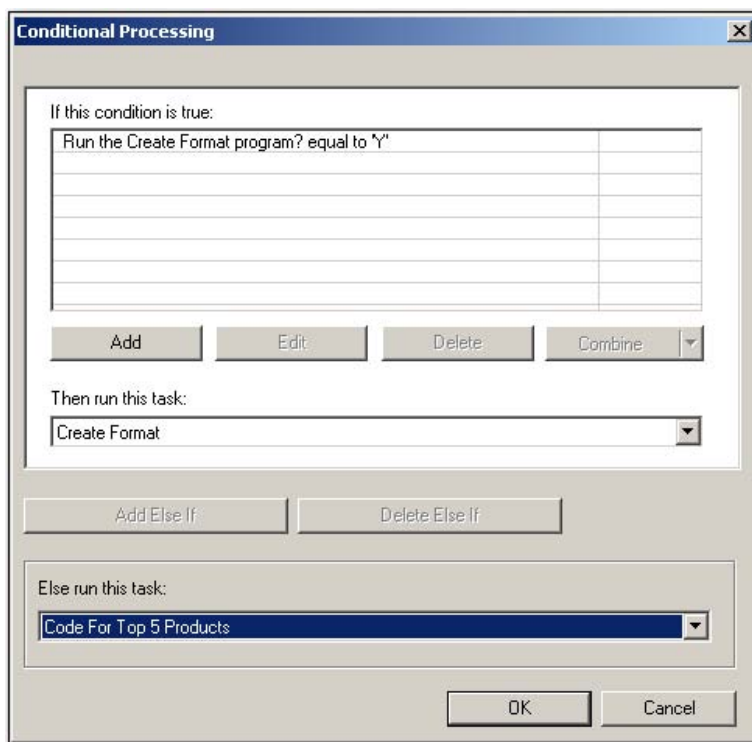

Figure 18. Conditional Processing Window
9. Click **OK**. See Figure 18 for reference.